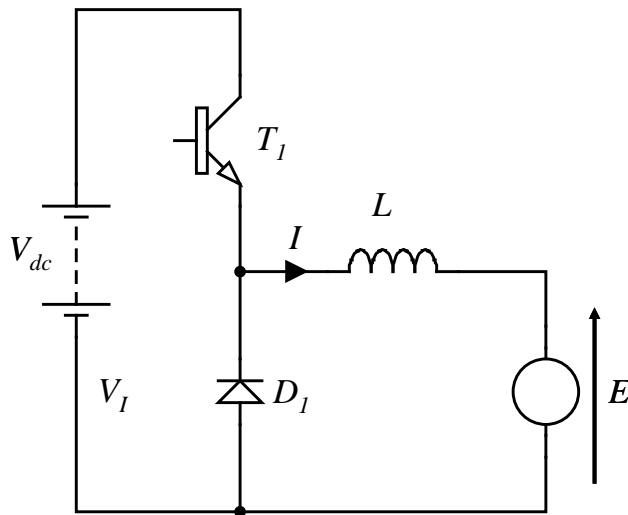

Figure 4
4. The circuit shown in Figure 4 is a speed controller for a permanent magnet brushed DC motor. Its operating characteristics are very similar to a “buck” step-down converter in that transistor  $T_I$  is turned-on at a fixed interval (i.e. turned-on with constant switching frequency) and the speed of the motor  $\omega$  is controlled by varying the on-time of  $T_I$ . The back-emf of the motor  $E$  is proportional to speed ( $E=\psi\omega$ ) and the average current  $I$  drawn by the motor is proportional to the motor shaft torque ( $T_m=\psi I$ ). The inductor  $L$  represents the motor armature inductance. It is assumed that current continuously flows into the motor.